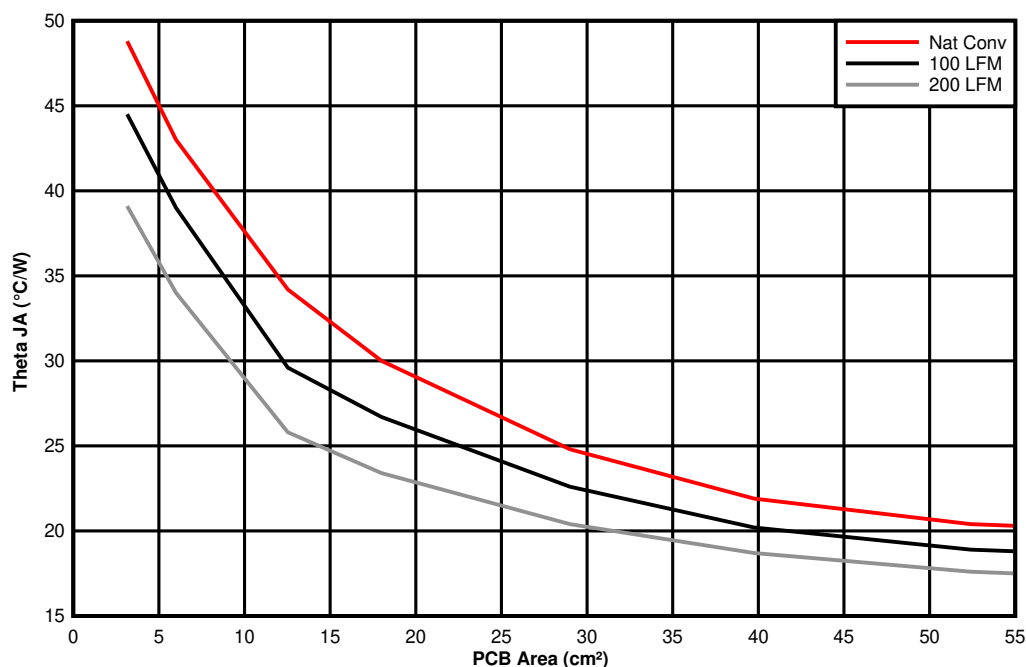

图 10-5.  $\theta_{JA}$  vs PCB Area
The amount of PCB copper as well as airflow effects the thermal performance of the device. Figure 10-5 shows the effects of copper area and airflow on the junction-to-ambient thermal resistance ( $R_{\theta JA}$ ) of the TPSM560R6. The junction-to-ambient thermal resistance versus PCB area is plotted for a 4-layer PCB.
3. Reference Figure 10-5 to determine the minimum required PCB area for the application conditions.